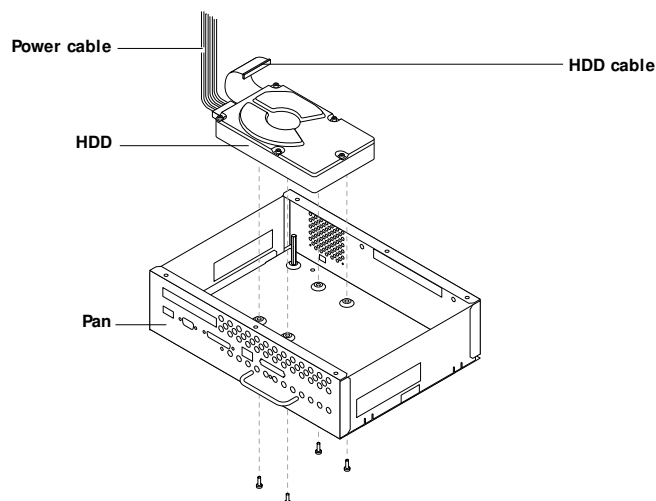

FIGURE 4-14 Replacing the HDD
6. With the pan on its side, remove the four screws on the bottom of the pan that secure the HDD (see Figure 4-14).
3. **With the pan on its side, align the four holes in the bottom of the HDD with the holes in the bottom of the pan and replace the four screws you removed earlier (see Figure 4-14 on page 4-19).**